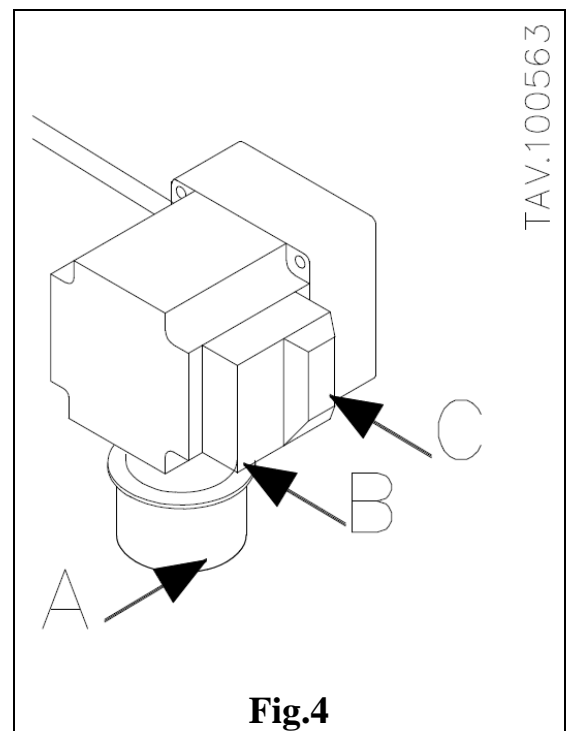

Fig.4
(In order to better understand, please check figure 4 and the electric diagram in figure 13a).
1. Connect the fixed plug of the machine's switch to the specially-conceived 380-V, 50-Hz outlet (part. A in figure 4) with an external electric cable. (The a.m. outlet is part of a special box also containing the general switch). The plug has to be connected when the general switch is in the **OPEN** position.
2. In order to start up the machine, push the green button of the general switch (part. B, in green, in figure 4) situated onto the machine and operate for a while. The a.m. switch is equipped with a minimum voltage relay ; consequently, it will only close if the correct voltage is supplied, with the plug correctly positioned, the general switch in the **CLOSE** position and with properly working fuses.
In case you wish to stop the machine, just push the red button (part. C, in red, in figure 4) of the command panel.